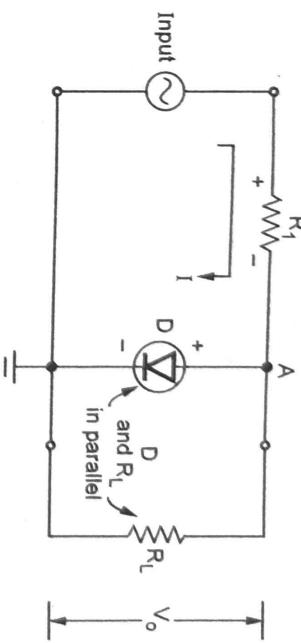

Fig. Q43.1 Parallel positive clipper
- The Fig. Q43.1 shows the basic parallel positive clipper circuit in which diode D is connected across the load resistance R_L . The resistance R_1 is current controlling resistance.